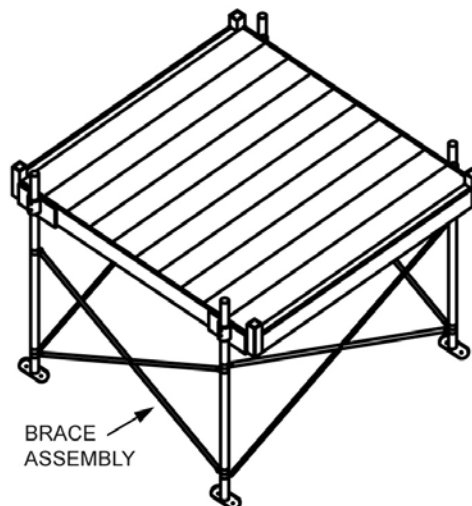

FIG 13
- i) Install platform brace assemblies on all support tubes when the walking surface is 36" or more above the ground. The platform brace assemblies are normally installed on all four sides (FIG 13).